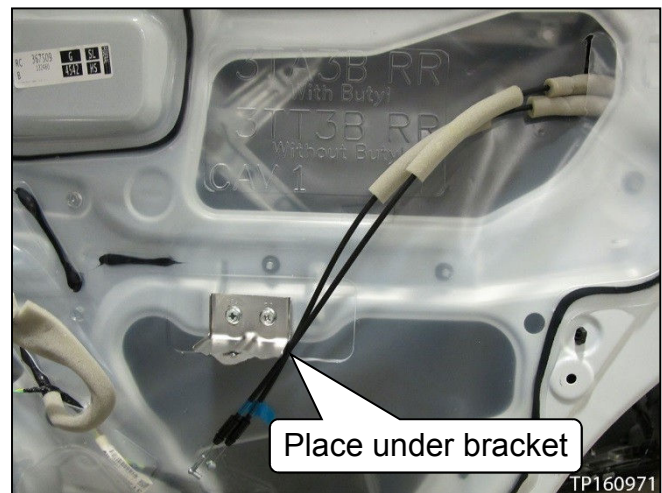

Figure 10
1. Gently place the cables out of the way under the door finisher bracket (see Figure 10).